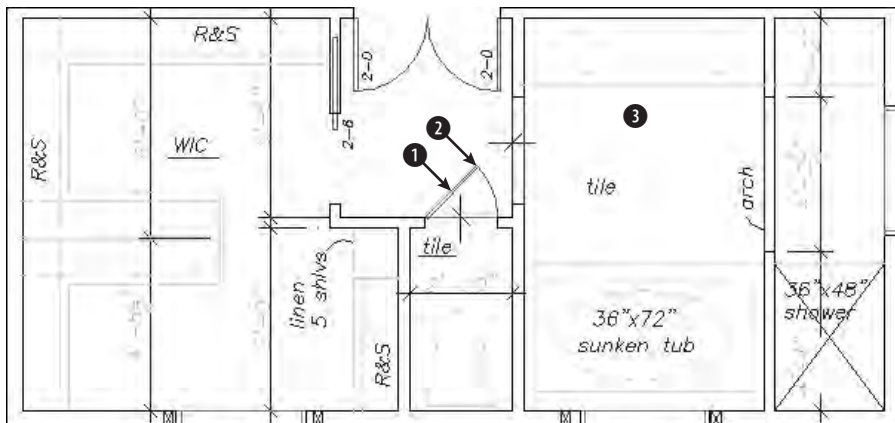

Figure 13-5: The master bathroom
2. Save the file as `ab13-01.dwg` in your AutoCAD Bible folder. This is a master bathroom plan drawing, as shown in Figure 13-5. Make sure OSNAP is on. Set running object snaps for endpoint, midpoint, and intersection.
Specify bottom-center point of text: *Use the Midpoint running object snap to pick ❶ in Figure 13-5.*
Specify middle point of text: *Pick 3 in Figure 13-5. (This point doesn't have to be exact.)*